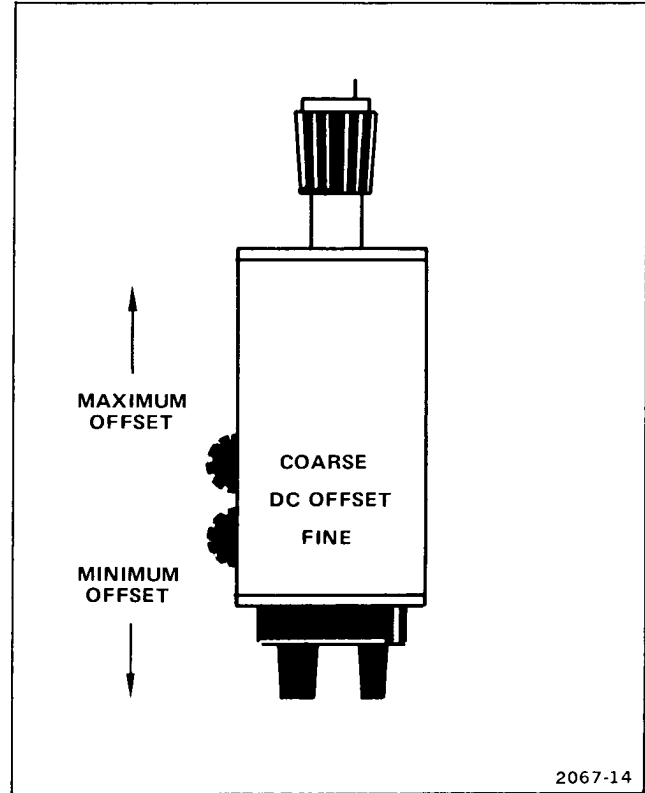

Figure 4-2. COARSE and FINE controls.
c. Set the probe's COARSE and FINE controls for minimum offset (see Figure 4-2). Set the DC OFFSET switch to +.
h. Set the COARSE and FINE controls for maximum offset (see Figure 4-2).